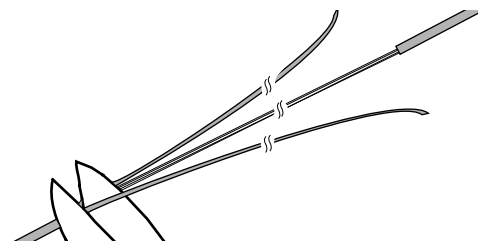

Figure 7
5.7 Use scissors *with great care* to remove the resulting buffer tube halves (Figure 7). If the buffer tube is Gel-free, carefully cut out the water-block yarns. If filling compound is present, wipe the filling compound from the exposed fibers with Fiber-clean wipes. The fiber is now ready to be cut at its proper end and spliced / connectorized to another fiber.